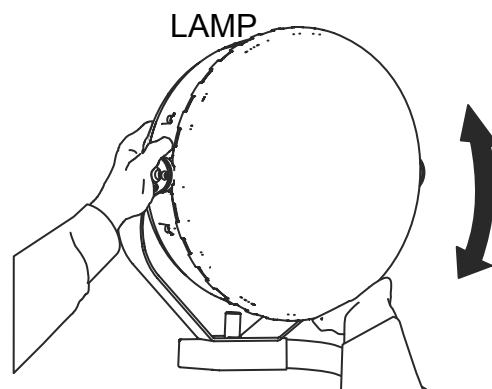

Figure 10. Tilting a Lamp
2. To tilt the lamp to a desired angle, hold the individual lamp and tilt (Figure 10).